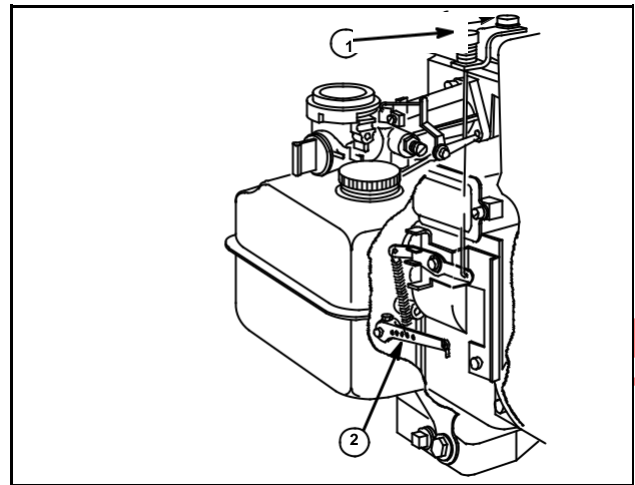

Fig. 23
Turn thumbscrew (1) counterclockwise as shown to increase speed, spring hooked in #4 hole (2), Fig. 23.